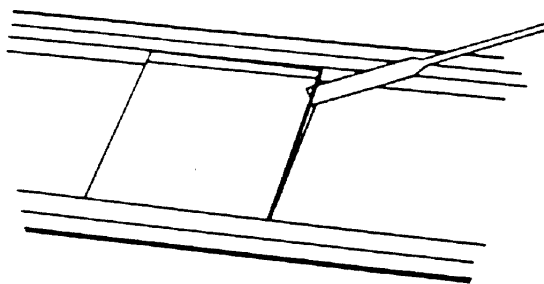

Fig. 3.2. Lifting the gel from the casting tray.
- a. Lift one corner with a flat spatula inserted between the gel and the casting tray (see Figure 3.2).